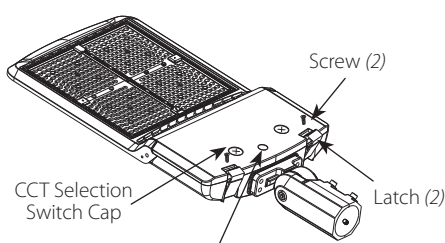

FIG. 5 Respirator Plug w not open/do not remove.
Follow instructions below to change Fixture Color Temperature (CCT) and/or Power (W) from the factory settings. **WARNING: Do not open or remove Respirator Plug** (Fig 5).
1. Unscrew the **CCT Selection Switch Cap** as shown in Fig. 5.
1. Open the **Driver Box Cover** by **Latch (2)** and remove **Screws (2)** as shown in Fig. 5.